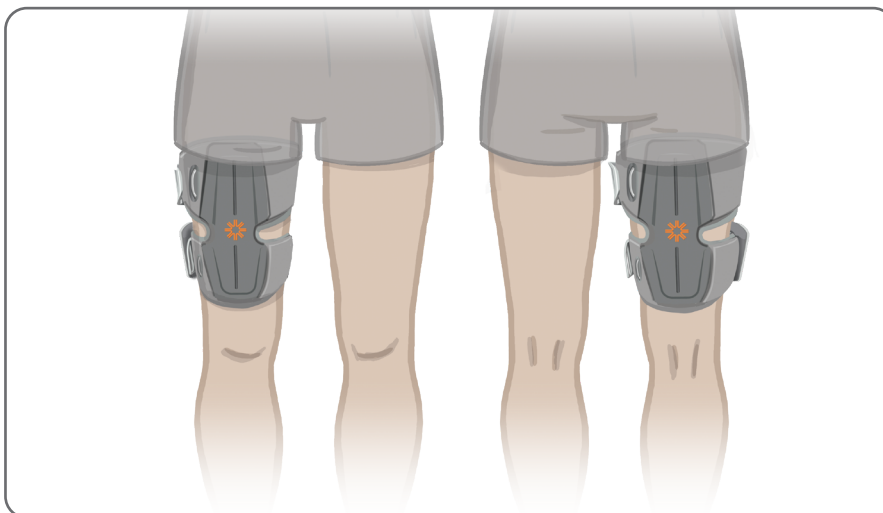

Figure 6-16: Correct Position of the Thigh Cuff
4. Center the bridge on the midline of the thigh. See Figure 6-16.
5. Fasten the straps by inserting the strap buckle into the hook attached to the Thigh Cuff panels. See Figure 6-16. If needed, tighten the strap tension by adjusting the strap fasteners.